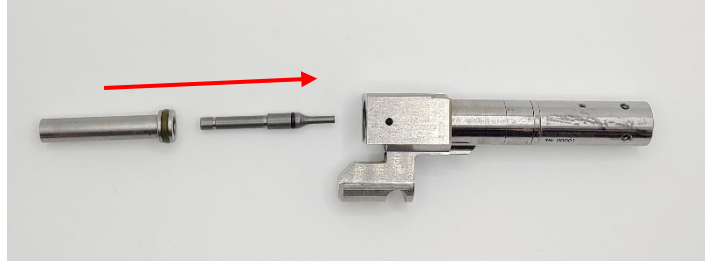

Figure 5: Piston and Striker Lubrication
- Replace freshly lubricated piston into the barrel block and move piston back and forth to distribute lubrication (Figure 5).